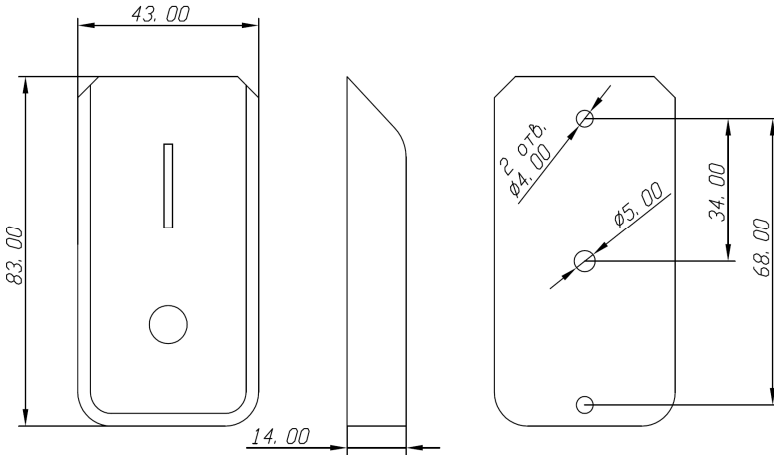

Figure 1
2.3.2 To secure a reader to a wall drill two mounting holes for screws and a hole to pass wires through it as shown in Figure 1. Please take into account that read range distance is reduced when exposed to electromagnetic interference or mounted on a metal surface.